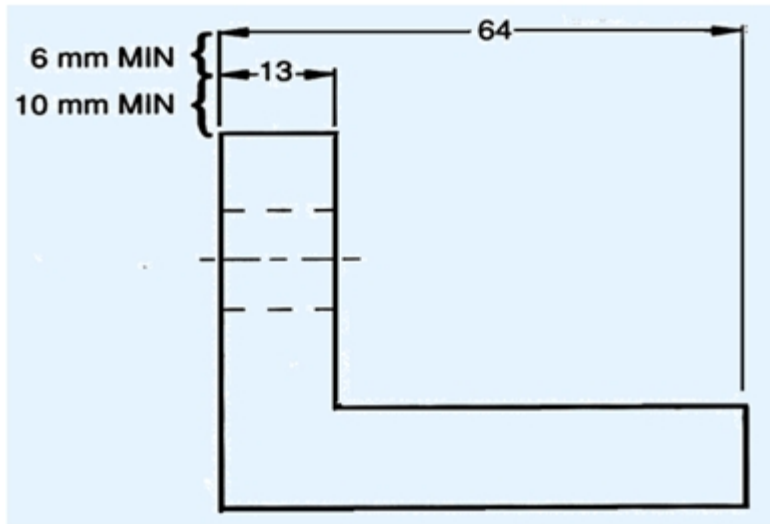

Figure 5. Showing extension lines
**Extension line** – a thin, solid line perpendicular to a dimension line, indicating which feature is associated with the dimension. There should be a visible gap of 1.5 mm between the feature's corners and the end of the extension line. Figure 5 shows extension lines.